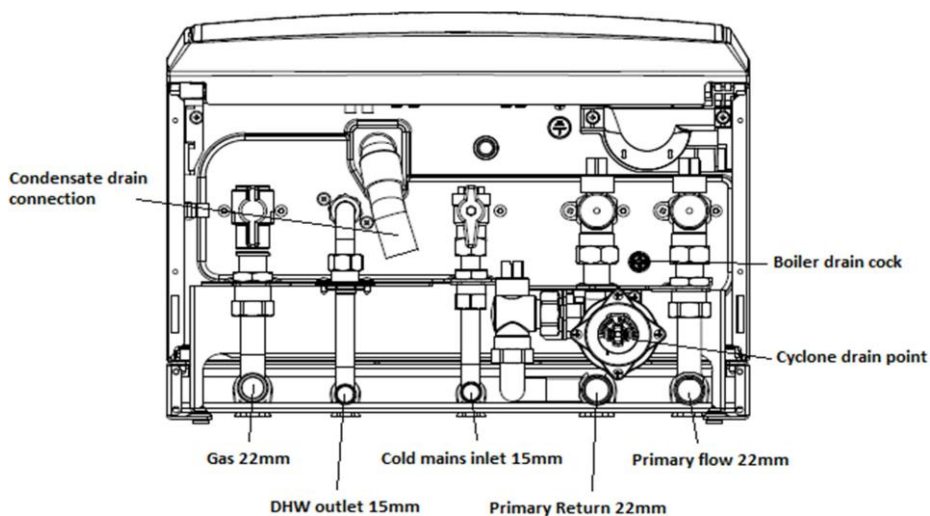

Fig.3
b. Pipework Connections - See Fig. 3